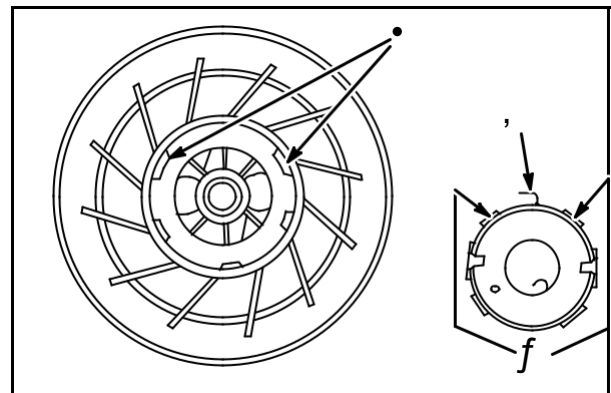

Fig. 69
Place spring and cup assembly in pulley with outer end of spring tab (2) between two wide lugs in pulley (1) and spring cup projections (3) next to the two wide lugs, **Fig. 69**.